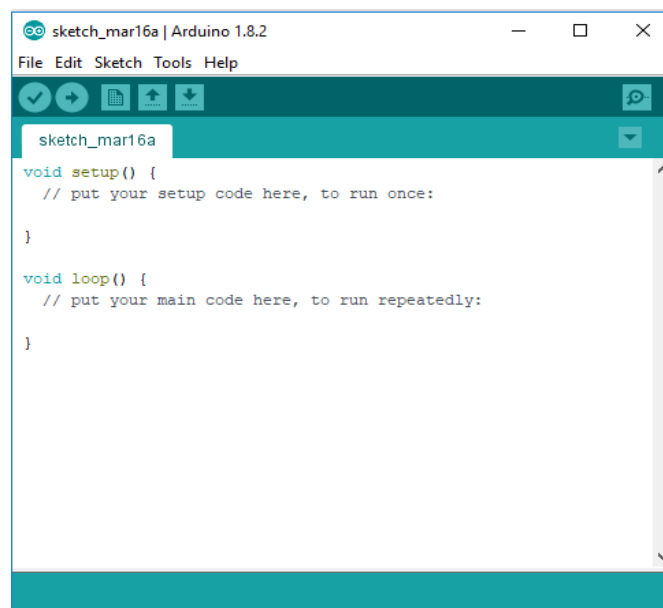

Fig. 2 IDE Environment (text editor)
1. Open the Arduino Uno IDE 2.0.1 (version may have been updated automatically on your computer) and a blank sketch will open. The window as in Fig. 2 will come up on your PC: